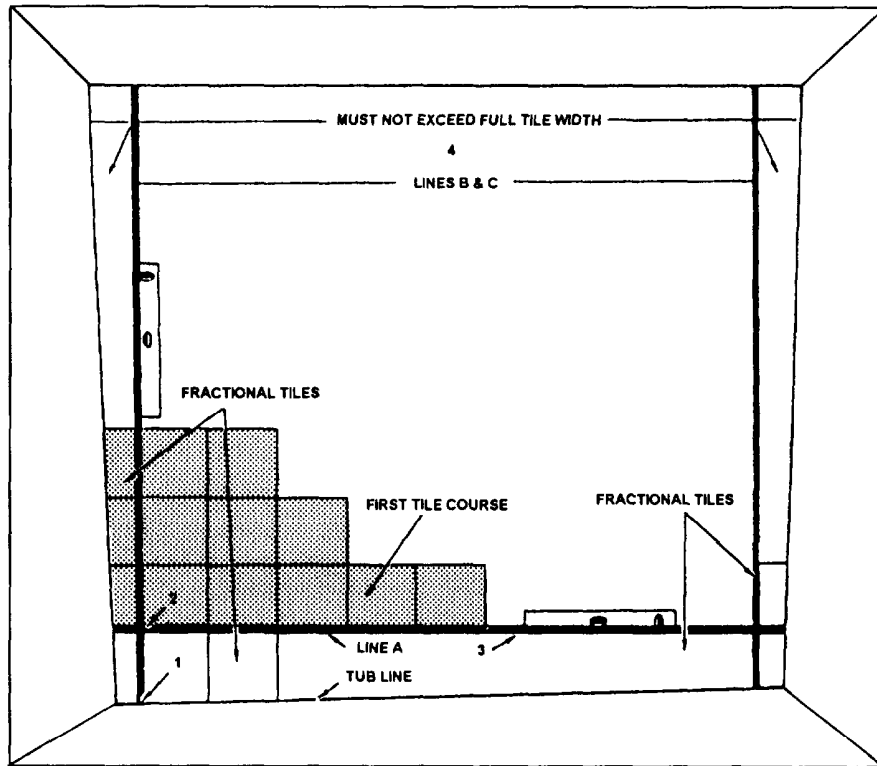

Figure 7-25.-Steps used for squaring a wall.
this line level across the entire width of the room. Refer to the bathroom wall example in figure 7-25 as you study the following steps:
4. Draw vertical lines B and C perpendicular to line A (fig. 7-25). Apply tiles to the squared-off area first. Then cut and apply fractional tiles.